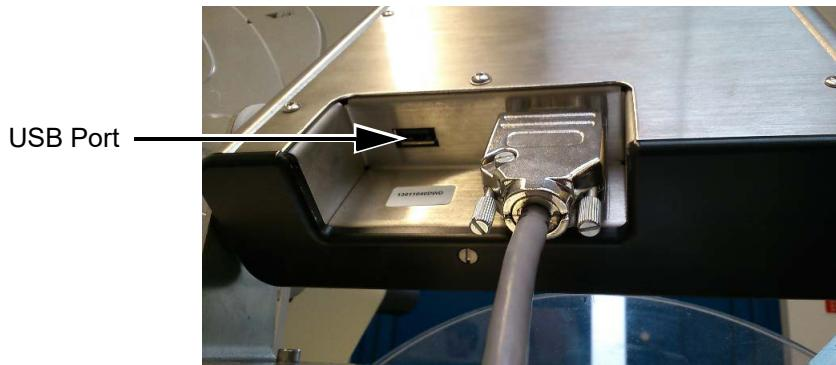

Figure 6-6: USB Location
- 2 Connect the stick to the CLARiTY Operator Interface via the USB port (see Figure 6-6).